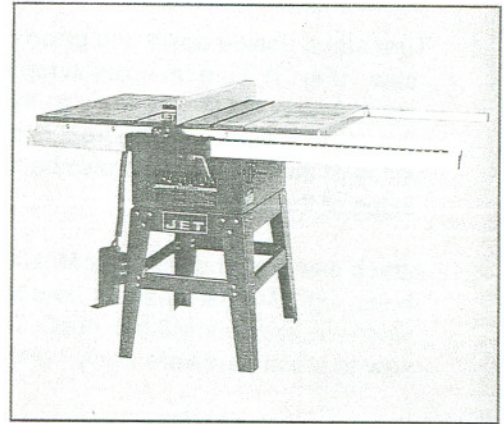

Fig. 7
2. Attach front guide rail to table only at this time using two 5/16" x 1-1/4" flat head screws. Tighten the screws holding the rail to the table firmly. (Fig. 7)